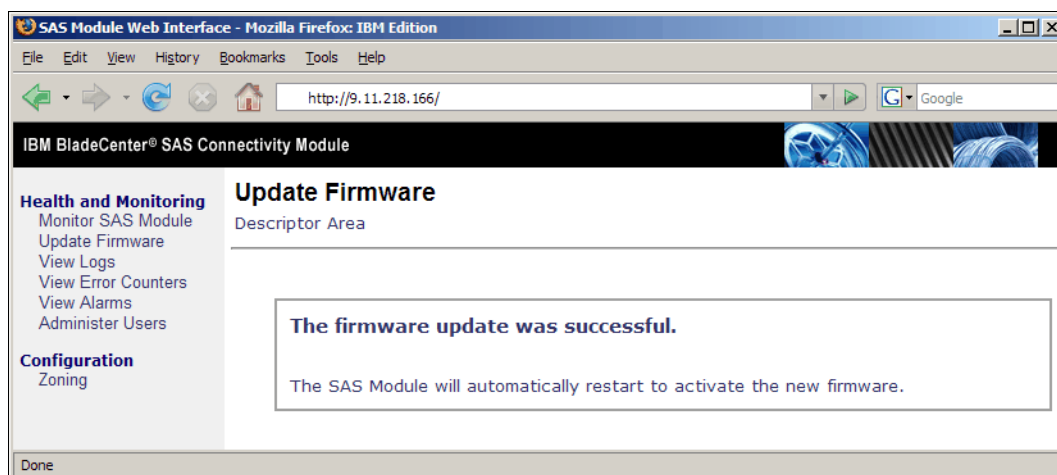

Figure 18-10 SAS Connectivity Module - Update successful
- Click **OK** or **Cancel**. If the installation of the new firmware file is successful, an installation confirmation window opens, as shown in Figure 18-10. If there are errors during the installation, an error message window opens.